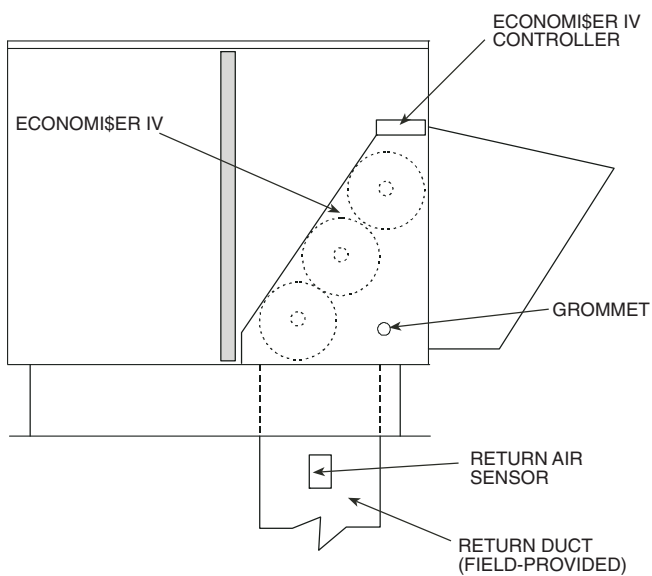

Fig. 4 — Return Air Enthalpy Sensor Mounting Location
- Using the screws provided in the CRENTDIF004A00 kit, mount the differential enthalpy sensor in the return air duct as shown in Fig. 4.